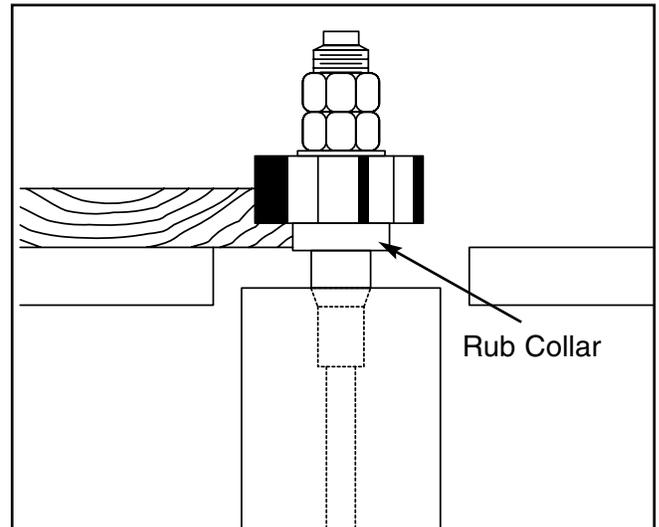

Figure 25. Rub collar installed below cutter.
- When the rub collar is used below the cutter (**See Figure 25**), the progress of the cut can be observed. However, any unintentional movement may lift the workpiece into the cutter, damaging your work and creating a dangerous situation. **We DO NOT recommend this setup.**